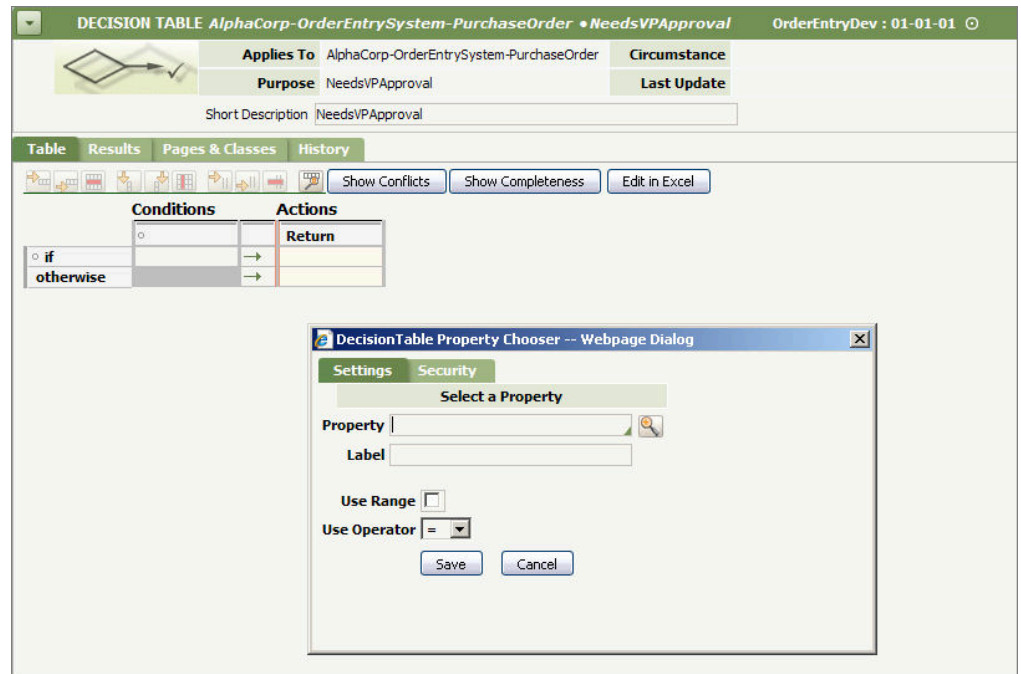

Figure 3-16. Decision Table Rule – Decision Property Chooser
- Click the column heading cell (just below Conditions) to label the column in the matrix. A Property Chooser pop-up window displays (Figure 3-16).